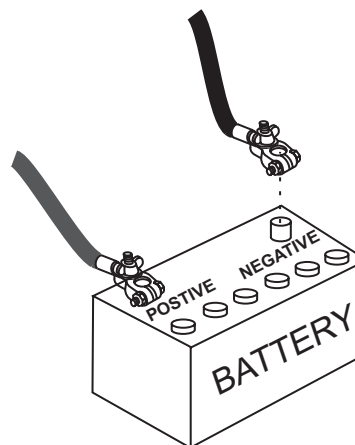

Figure 33. Battery Connections
3. Connect the negative battery cable (BLACK) to the negative post on the battery (Figure 33).